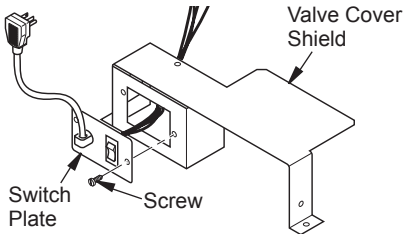
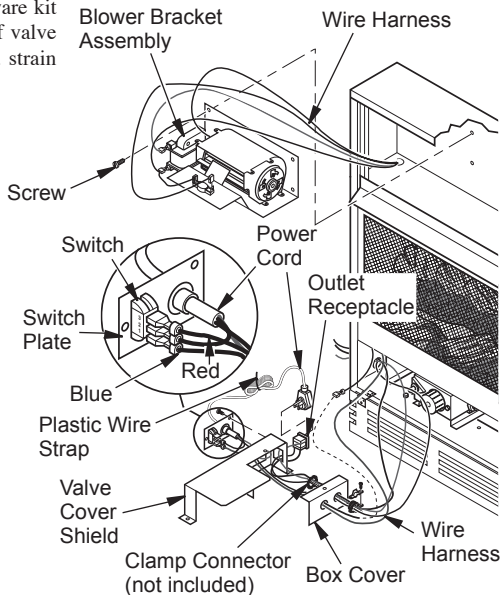

Figure 18 - Installing Switch Plate to Valve Cover Shield
Figure 20 - Installing Blower Bracket Assembly
5. Plug power cord to the outlet receptacle (not provided) as shown in Figure 18. Wind the extra power cord and tie it up with the plastic wire strap (see Figure 20). Set the power cord bundle between the burner bracket and outer casing, away from the burner.